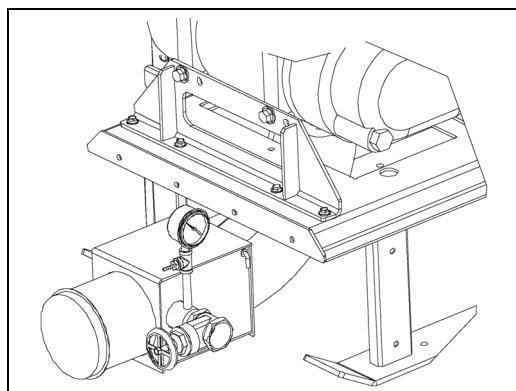

Figure 4P
11. Remove 1/4" pipe plug in gate valve pipe. Install gauge assembly and attach air hose. \(See Figure 4P\).